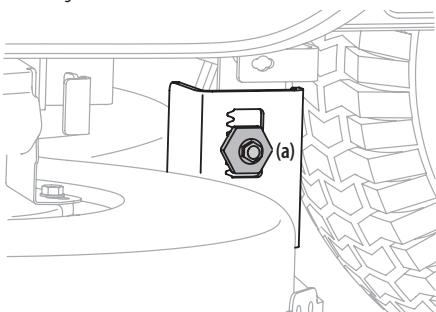

Figure 28
- Under the rear fenders inside the wheels there is a lift adjustment hex cap screw and gear for each side of the deck. See Figure 28.
- Loosen, but do NOT remove, the hex cap screw (a) on the left deck hanger bracket. See Figure 28.
- When the proper adjustment is achieved, tighten the hex cap screw (a) on the left deck hanger bracket. See Figure 28.